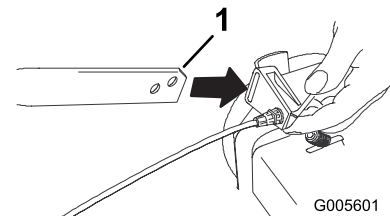

Figure 3
1. Slip the cable anchor onto the left lower handle end (Figure 3).